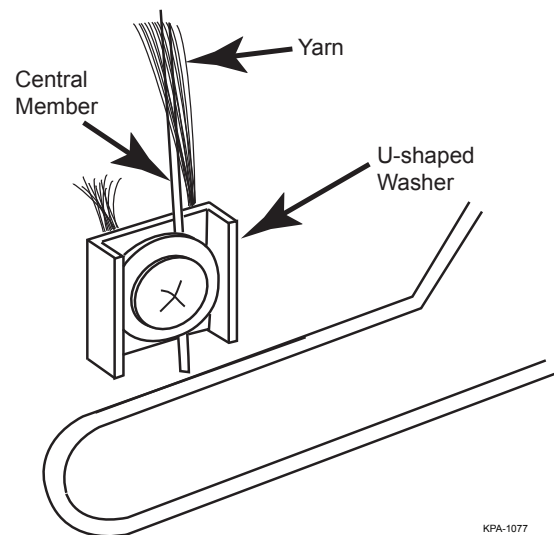

Figure 8
- Step 4:** Wrap yarn around the screw in a clockwise direction and under the U-shaped washer (Figure 8).